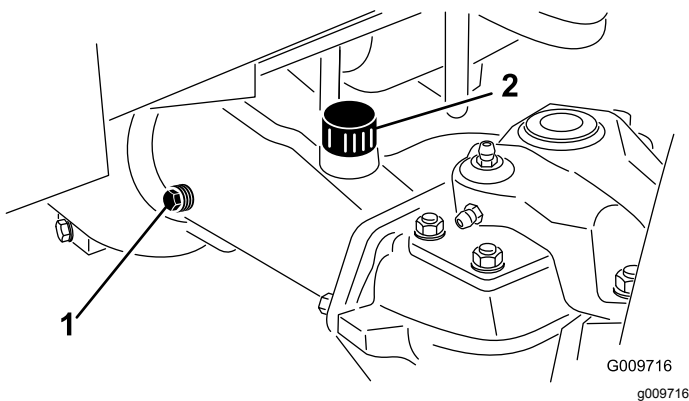

Figure 41
2. Remove a check plug from one end of the axle (Figure 41) and make sure that the lubricant is up to the bottom of the hole. If the level is low, remove the fill plug (Figure 41) and add enough lubricant to bring the level up to the bottom of the check plug holes.